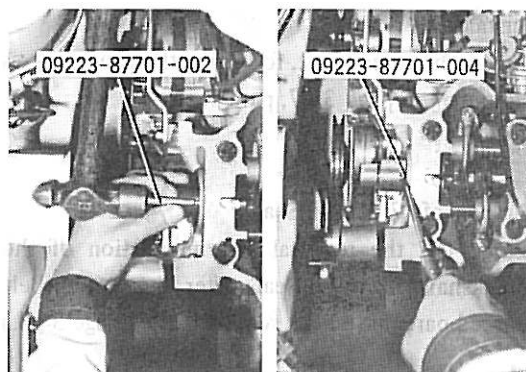

Fig. 3-108 Removing Camshaft Oil Seal
2. Place the special tool (09223-87701-001) against the oil seal, as indicated in Fig. 3-108. Screw-in the crankshaft pulley attaching bolt so that the oil seal may be installed into the gear cover.
4. Pry the oil seal out with a screw driver or the like, as indicated in Fig. 3-108.